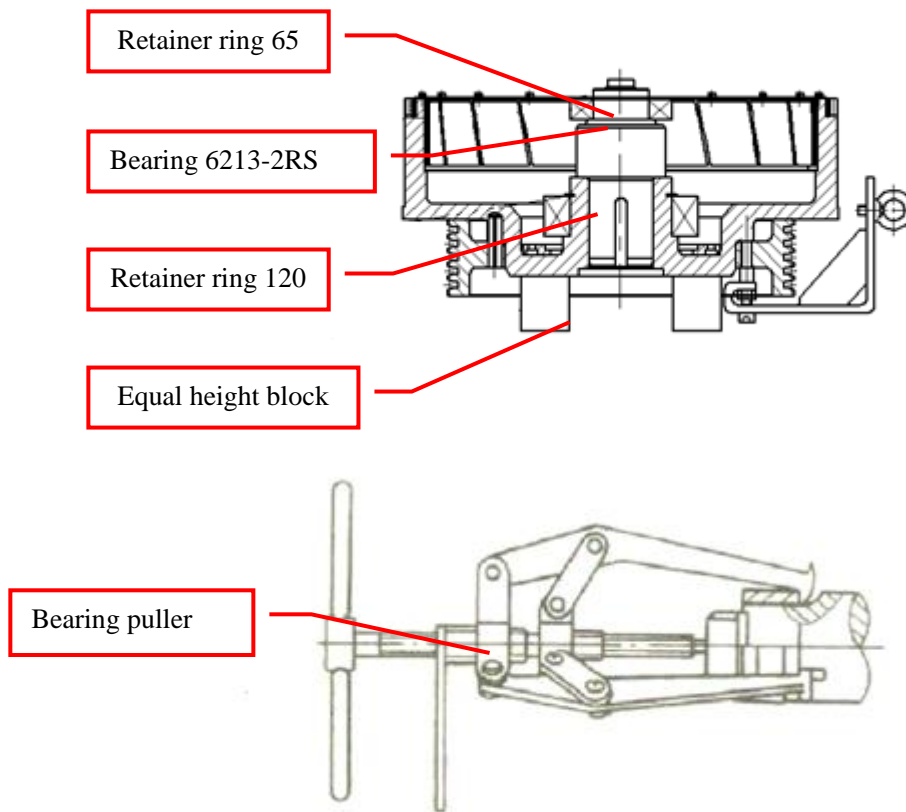

Figure 62: Remove retainer rings and bearing
9. Place the rotor assembly on equal height blocks. Using snap ring pliers remove bearing end parts respectively Retainer ring 65 and Retainer ring 120. Remove bearing 6213-2RS with a bearing puller. See Figure 62.